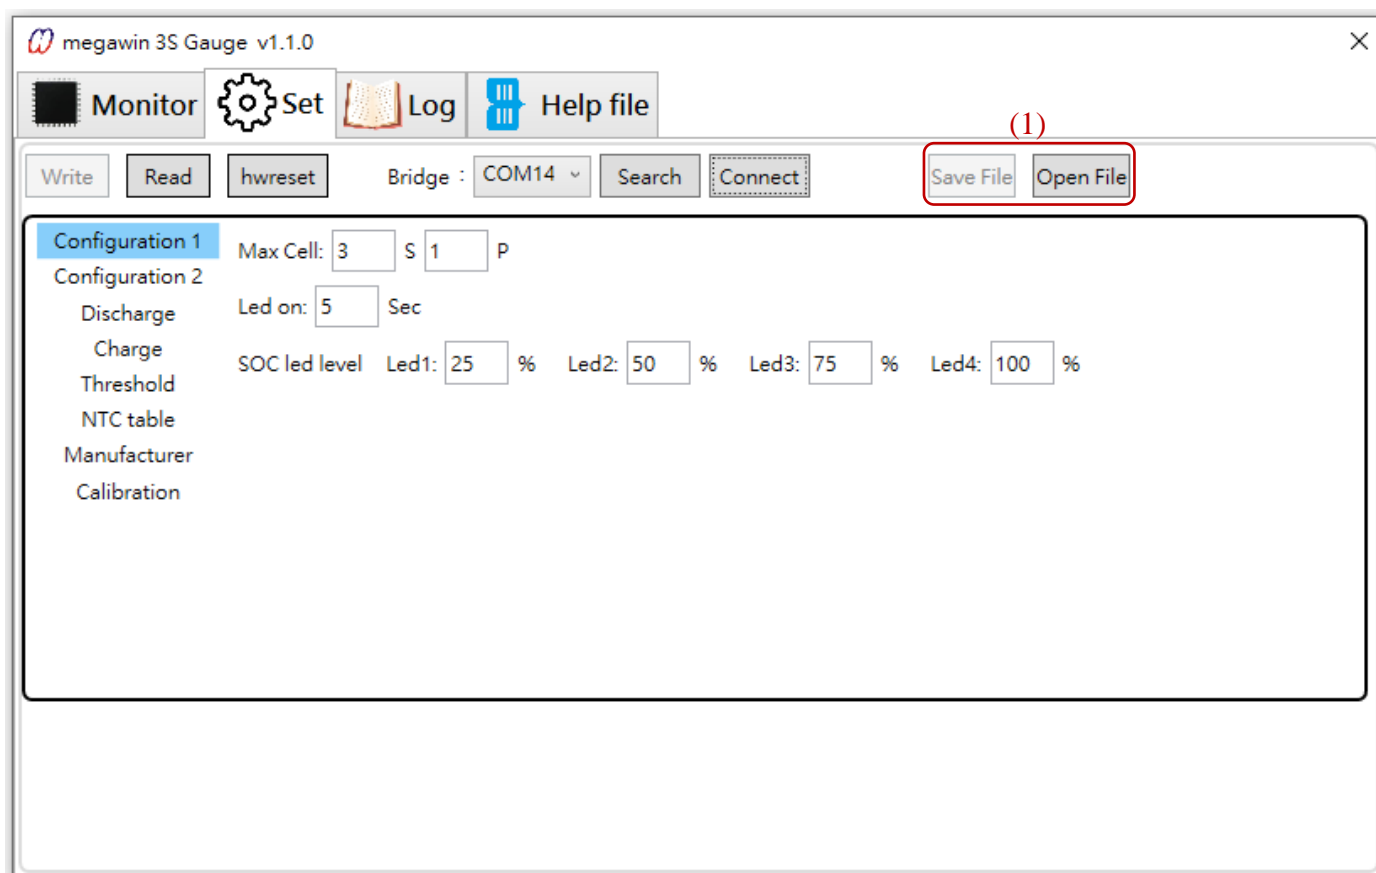

Figure 2-7 File Block
As the area shown in Figure 2-7 (1), all system parameters of the GUI can be saved to an external file or read back from an external file into the GUI.